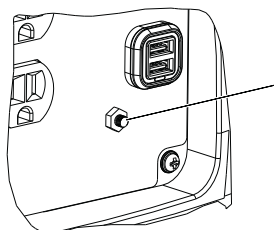

Figure 3-1. Grounding the Generator
See Figure 3-1. The portable generator is equipped with a terminal for the connection of a field grounding electrode conductor where a grounding electrode system is required by NEC Article 250.34 (A). The equipment grounding conductor terminals of the generator receptacles are bonded to the generator frame. Where the generator supplies power to cord and plug connected equipment, like power tools, the frame of the generator is not required by the NEC to be connected to a field grounding electrode. The generator neutral conductor is bonded to the generator frame in accordance with NEC Article 250.34(C).